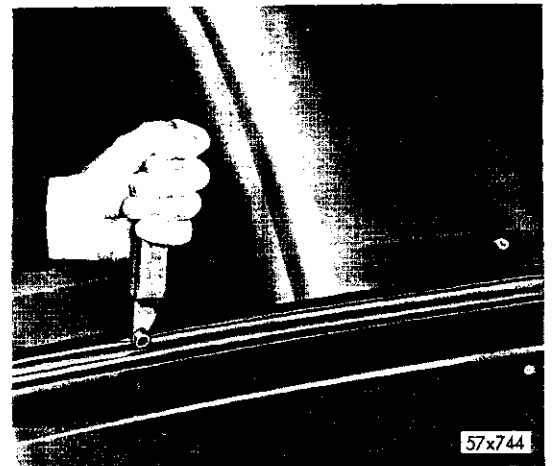
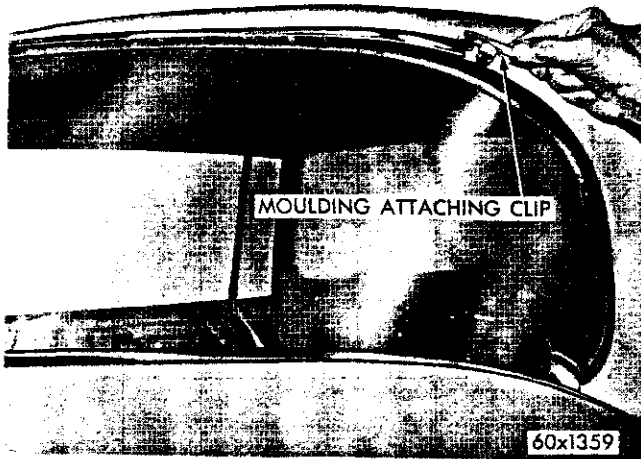

Fig. 40—Locking in the Rear Glass
Fig. 41—Removing the Upper Rear Window Moulding Clip (Imperial)
(6) Lay a bead of sealer in the glass groove all around the rear window.
(7) Moisten the edge of the locking strip with water.
(8) Starting at the center of the upper edge, lock the top edge and the sides. Lock the lower edge last. See Fig. 40.
(9) Install the upper, lower, and side mouldings.
(10) Install the upper and lower center moulding clips (Fig. 41) the side moulding caps and check